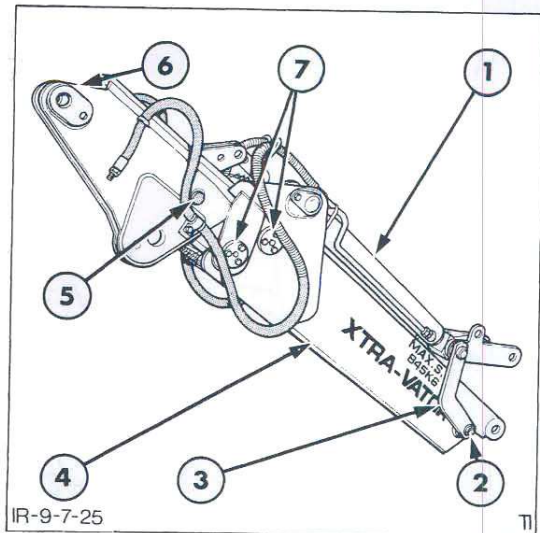

Figure 34
9. Support the dipstick with a suitable chain and hoist. Remove the bolt securing the dipstick to boom pivot pin and drive the pin from its position with a brass drift and hammer. Lower the extendible dipstick assembly onto the workshop floor. Figure 34.
3. Remove the snap rings and washers at the idler link, Figure 34 and drive out the cylinder rod end attaching pin.